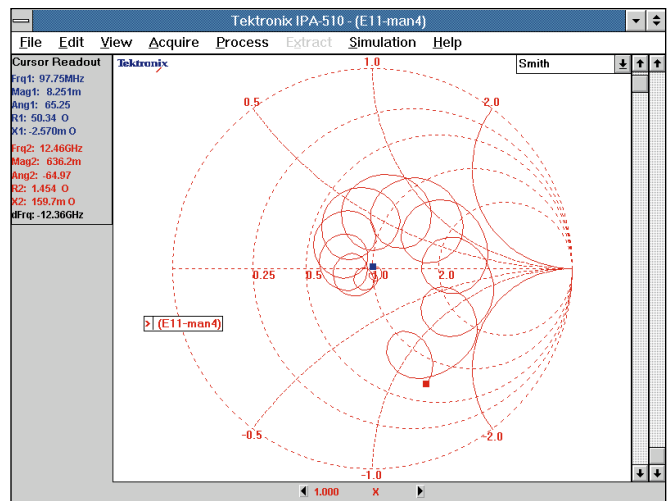

Figure 5. Input impedance vs. frequency for circuit-board interconnect.
- **Tektronix 11801B Mainframe with SD24 Dual TDR/Sampling Head plus the IPA 510 EA-TDR/TDT (Options 2S, 1U, 2U).** Provides increased accuracy time-domain measurements after a simple vector-network-analyzer-like calibration for one- and two-port measurements. Time-domain measurements made in this mode can be displayed in volts vs. time, and in a number of amplitude/phase vs. frequency formats – DC to 12.5 GHz (see Figure 5). S-parameter data can be exported in Touchstone format for use with linear frequency-domain simulators. Swept-frequency displays can be saved to a file in CSV format for use with standard spreadsheets. This IPA 510 option requires a precision 3.5 mm calibration kit (optional), or any other OSL style calibration kit used for vector network analyzer calibration.